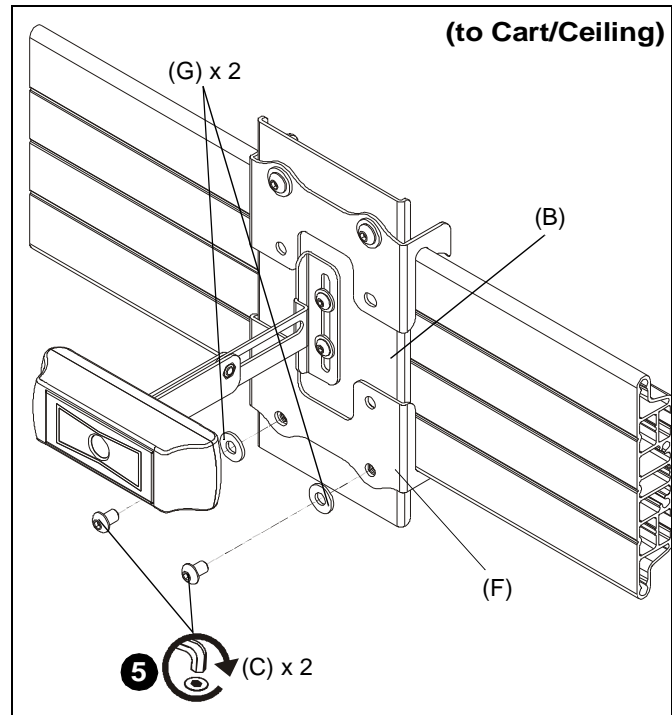

Figure 4
5. Use two 1/4-20 x 3/8" button head cap screws (C) and two 1/4" washers (G) to attach the other center holder (F) to center plate (B). (See Figure 4)